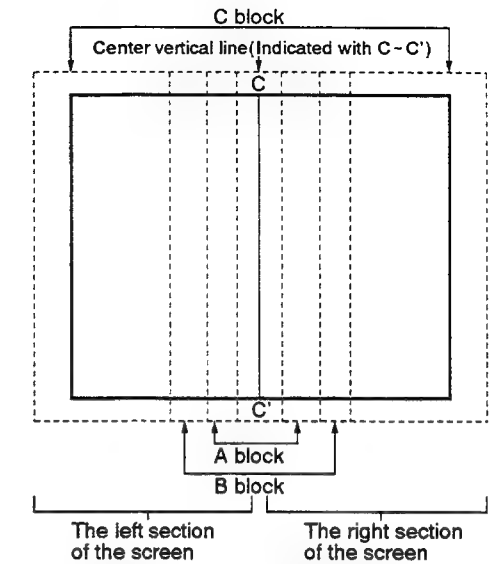

Fig. 9-9 Screen Divisions for Horizontal Adjustment
- For information on blocks which are referred to in some operation columns, see Fig.9-9 and 9-13.
See Fig. 9-9 for reference, in which each of the sections to the right and left of the center vertical line of the screen are divided into three blocks to describe the picture movements.